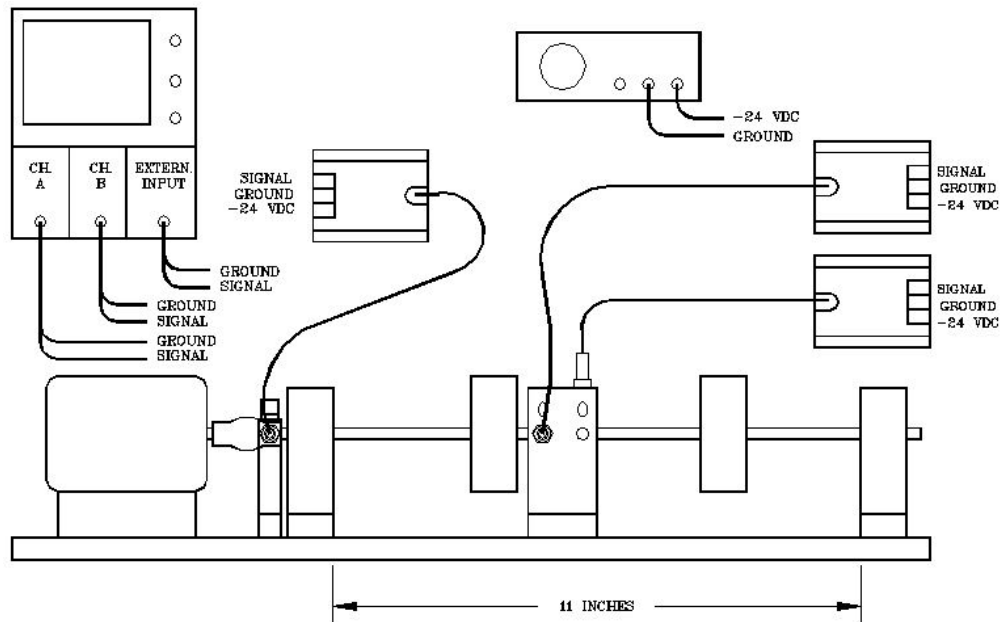

Fig. 7.1
Assemble the demonstration rotor using two (2) sleeve bearing assemblies, two rotor masses as shown in Figure 7.1. Install the phase transducer mount so that the probe observes the notch in the coupling. Attach the accelerometer in the vertical orientation on the outboard bearing assembly and install the vibration probes in the vertical and horizontal positions.